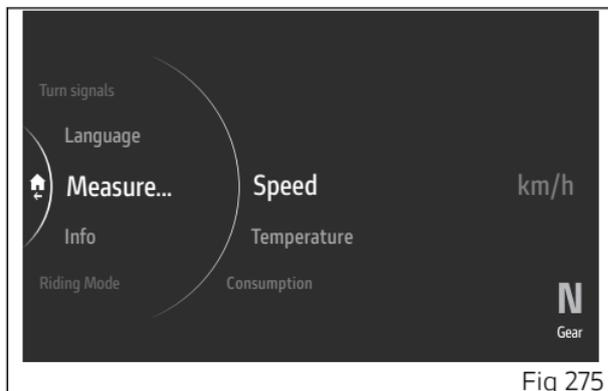

Fig 275
- Select the "Speed" item and press ENTER (Fig 275).